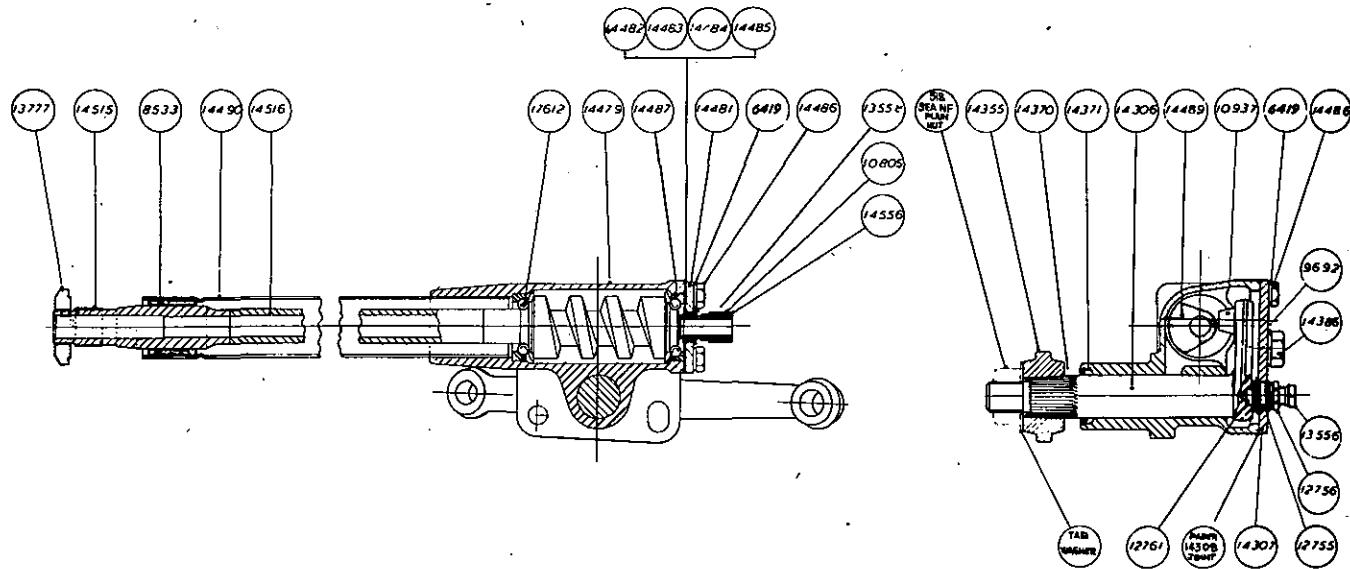

Fig. 5. Sectional view of Bishop's cam and lever. Model "T" steering gear
Type and Description (Fig. 5).
The Steering Gear is the Bishop Cam and Lever Model "T" having a ratio of 11 to 1. The cam portion takes the form of a generated worm and runs in ball bearings. The rocker shaft runs in a plain bearing and a lever integral with the shaft carries a peg which is conical at one end to engage the cam, and as the conical part of the peg does not touch the bottom of the cam groove, adjustment for wear is effected by varying the depth of engagement. This is done by means of the set-screw 13556 (Fig. 5) in the top cover of the steering gear.
The gear is illustrated in Fig. 5, from which it will be observed that it is a self contained unit of extreme simplicity consisting essentially of a cam 14489 mounted on the bottom of steering tube 14516, which engages with the rocker shaft 14306 through a spiral groove cut in the periphery of the cam and a fixed peg mounted in the top of the integral lever of the rocker shaft.
If the steering is stiff in the centre position only, the adjusting screw 13556 (see Fig. 5) is probably tightened up too much. Screw up "finger tight" only, but lock up the lock nut really tight. This adjustment *must* be made with the gear in the centre position only.
ahead position. This is due to play of the taper pin in the cam groove, and is eliminated by re-adjusting the screw (13556 Fig. 5) until a slight binding can be felt when turning the steering wheel to and fro with the gear in the straight ahead position.
Lost motion can be easily detected by lightly shaking the drop arm (14355, Fig. 5) in a forward and rearward direction and moving the steering wheel to and fro near the straight ahead position until the least amount of play is found (this fixing the deepest point of engagement between the rocker shaft lever and cam). Keep the gear in this position and then adjust the setting of the screw (13556, Fig. 5). Be careful not to adjust this screw too far in so that the feel in the straight ahead position is too heavy; just a slight touch is all that is required, otherwise the top cover plate 14307 will be damaged and oil lost quite apart from the fact that the steering will be rendered stiff in the straight ahead position.
1. Disconnect the rods from the drop arm (14355, Fig. 5). Set the steering partly towards right- or left-hand lock. (Full lock position should not be used). Grip the lever firmly and try to move it forwards and backwards (holding the wheel from turning) and see if the steering wheel shows any lift. If such play exists, this is due to end play of the cam in the ball bearings. The remedy for this lift is to remove one or more shims adopting a similar procedure to that described further on for the addition of shims when dealing with a tight bearing. A very slight pre-loading of balls is permissible.
Remove top cover plate and rocker shaft. If by turning the steering the ball bearing can be felt grinding, the cam bearings (17612, Fig. 5) are too tight.